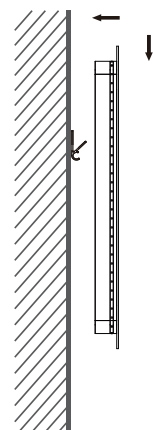

Fig. 3
6. Hang the product on the wall brackets (Fig. 3).